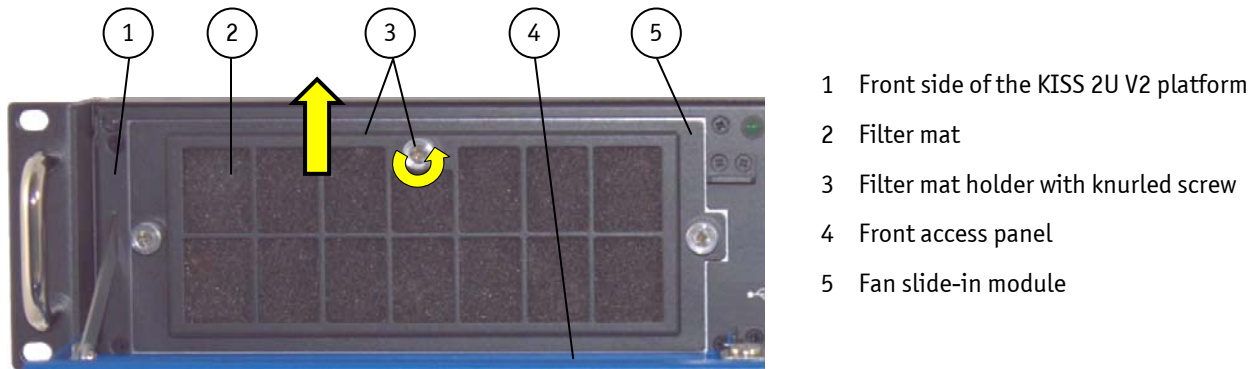
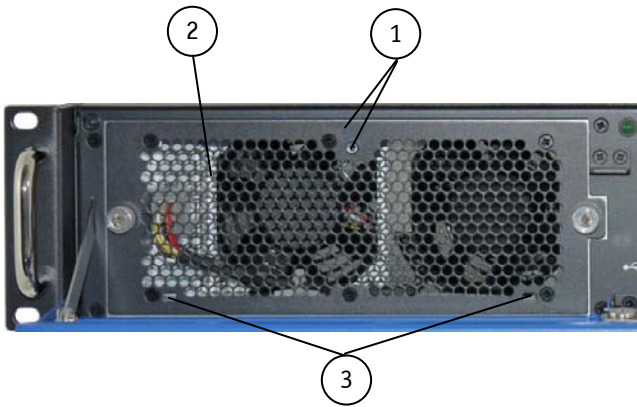

Fig. 44: Detail with filter mat holder on the front side of the KISS 2U V2 platform
Fig. 45: Detail without filter mat holder on the front side
The filter mat is inserted in the filter mat holder at the front side of the fan slide-in module (Fig. 44, pos. 4). The soiling of the filter mat is caused by the pollution of the operating environment. A heavily soiled filter mat can cause excessive heating of the device. For this reason we recommend to clean the filter mat as often as necessary. The filter mat can be replaced during operation of the system.
1. Open the front access panel (Fig. 44, pos. 4).
2. Loosen the knurled screw that secures the filter mat holder to the fan slide-in module (Fig. 44, pos. 3 and Fig. 46, pos. 5).
3. Pull the filter mat holder out from the positioning holes (Fig. 45, pos. 3) in the direction marked with the arrow (Fig. 44) and lift it off.
7. Reattach the filter mat holder to the front side of the fan slide-in module by inserting the positioning latches (Fig. 46, pos. 6) into the positioning holes (Fig. 45, pos. 3).
8. Fasten the filter mat holder by tightening the knurled screw (Fig. 46, pos. 1) to the bolt with tapped hole (Fig. 45, pos. 1) at the fan slide-in module.
Legende für Fig. 45 und Fig. 46: